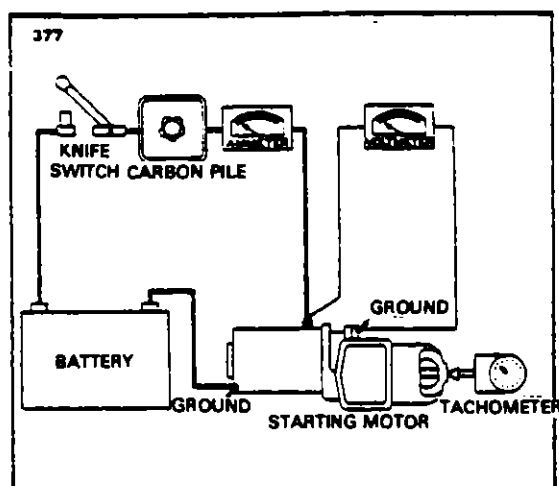

FIGURE 9-29e. NO-LOAD TEST HOOKUP
a. After the starting motor is reassembled, it should be tested to see that the no-load current at a certain voltage is within specifications as given in paragraph 9-90. To make this test, connect as shown in Figure 9-29e. If current is too high, check the bearing alignment and end play to make sure there is no binding or interference. Two or three sharp raps on the frame with a raw-hide hammer will often help to align the bearings and free the armature.